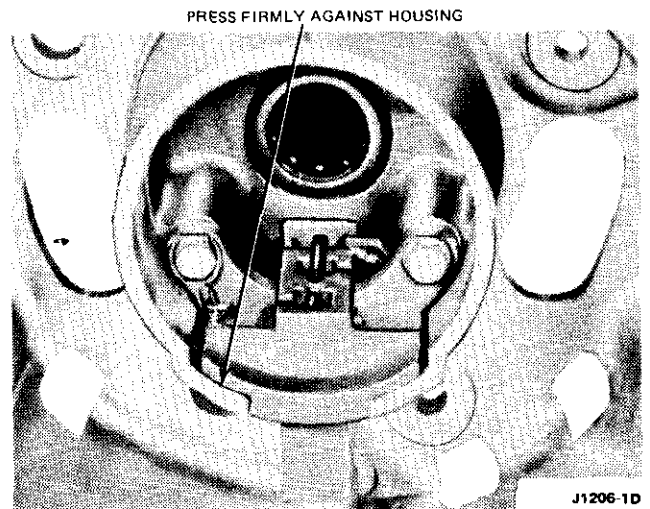

FIG. 9 Brush Lead Positions—Typical
8. Position the brush holder assembly in the rear housing and install the mounting screws. Position the brush leads in the brush holder as shown in Fig. 9.